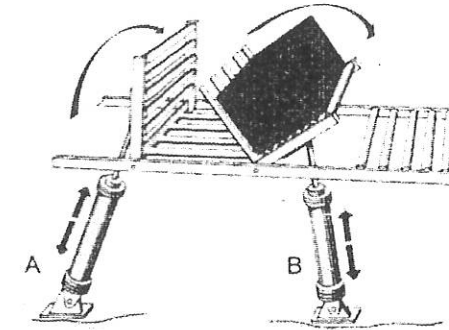

Figure 2
- (b) A container is to be turned by 180° from one plane to another as shown in Figure 2. As the container arrives, the cycle starts turning motion. Cylinder 'A' extends and turns the crate to 90°. Cylinder 'B' is in extended position and now retracts, turning the crate by another 90°. Design a pneumatic circuit for the above sequence using cascade method. The cycle has to start once 'start' button is pressed.